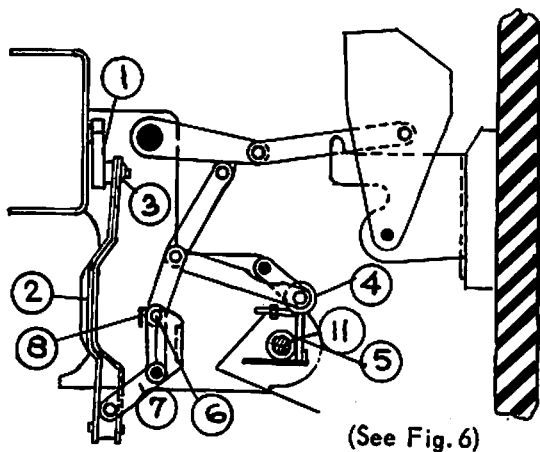

Figure 5(a)
The breaker mechanism is attached to the spring closing mechanism by means of a closing crank (1) connected to an eccentric link (2) which pivots on a uni-ball (3). See Figure 5(a)
The breaker is closed by rotating the closing crank clockwise through approximately 180°. As the crank starts to move the linkage is prevented from collapsing by the latch bearing (4) resting against the ground steel cam (5). As the crank continues to rotate the pin (6) is pushed by the closing casting (7) up to the stops (8) located on the mechanism side plates. See Figure 5 (a).
When the breaker is open and the spring charged ready for closing, the latch bearing will have a clearance of 1/64" to 1/16" above the ground steel cam. Figure 5 (b).